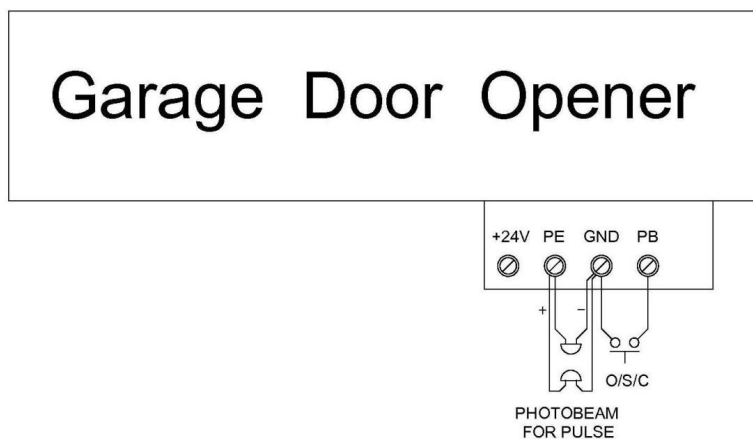

Fig. 11
Connecting a touch off switch to this terminal (Fig.11), you can use the switch when maintaining or the transmitter is left in garage.
3. Photo beam/switch control connection (Fig.11, Fig.12)